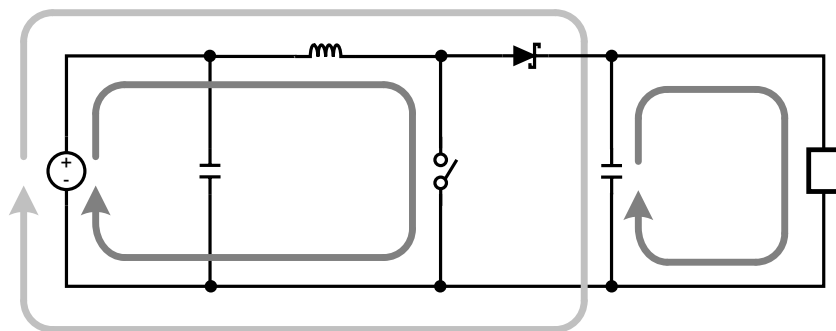

Figure 30. Boost Converter Current Loops
2. The switch node should be just large enough to connect all the components together without excessive heating from the current it carries. The LM5022-Q1 (boost converter) operates in two distinct cycles whose high current paths are shown in Figure 30:
The diagram of Figure 30 is useful for analyzing the flow of continuous current vs. the flow of pulsating currents. The circuit paths with current flow during both the on-time and off-time are considered to be continuous current, while those that carry current during the on-time or off-time only are pulsating currents. Preference in routing should be given to the pulsating current paths, as these are the portions of the circuit most likely to emit EMI. The ground plane of a PCB is a conductor and return path, and it is susceptible to noise injection just as any other circuit path. The continuous current paths on the ground net can be routed on the system ground plane with less risk of injecting noise into other circuits. The path between the input source, input capacitor and the MOSFET and the path between the output capacitor and the load are examples of continuous current paths. In contrast, the path between the grounded side of the power switch and the negative output capacitor terminal carries a large high slew-rate pulsating current. This path should be routed with a short, thick shape, preferably on the component side of the PCB. To keep the parasitic inductance low, multiple vias in parallel should be placed on the negative pads of the input and output capacitors to connect the component side to the ground plane. Vias should not be placed directly at the grounded side of the MOSFET (or R_{SNS}) as they tend to inject noise into the ground plane. A second pulsating current loop is the gate drive loop formed by the OUT and VCC pins, Q1, R_{SNS} and capacitor C_F . These loops must be kept small.